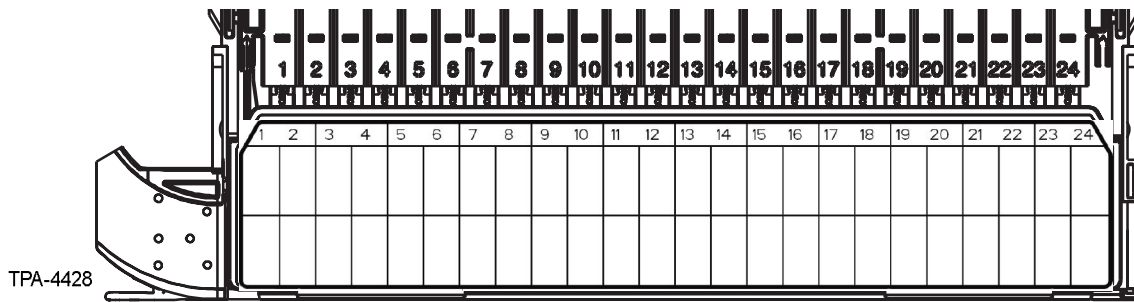

Figure 41
Step 13: Affix the designation label to the handle (Figure 41), if necessary.